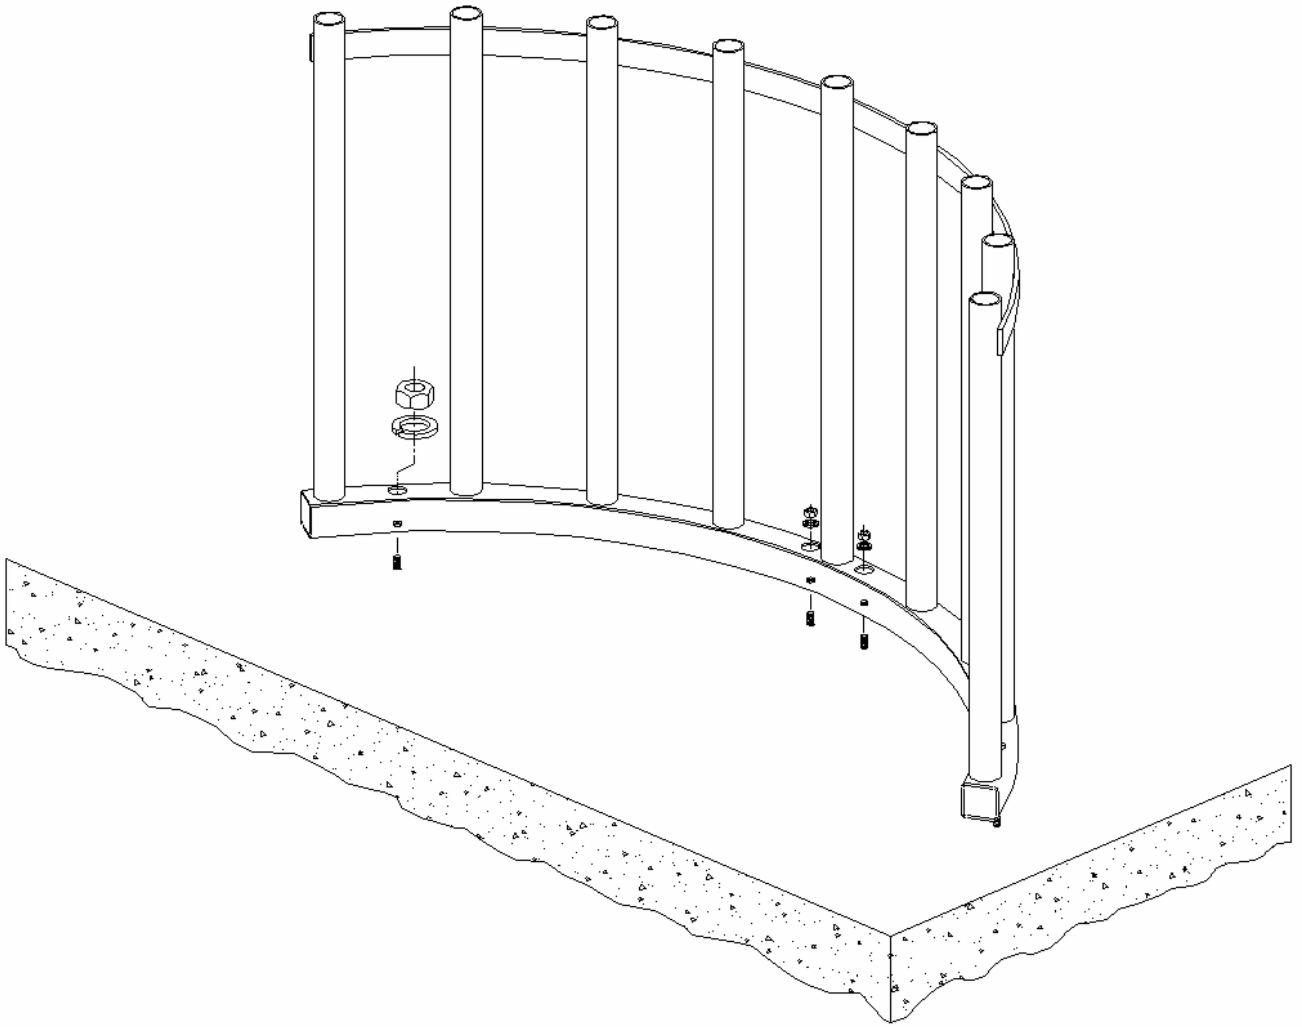

Figure 14
6. Install the shield assemblies on anchor studs and secure with washer and nut. See Figure 14. Do not fully tighten nuts at this time.